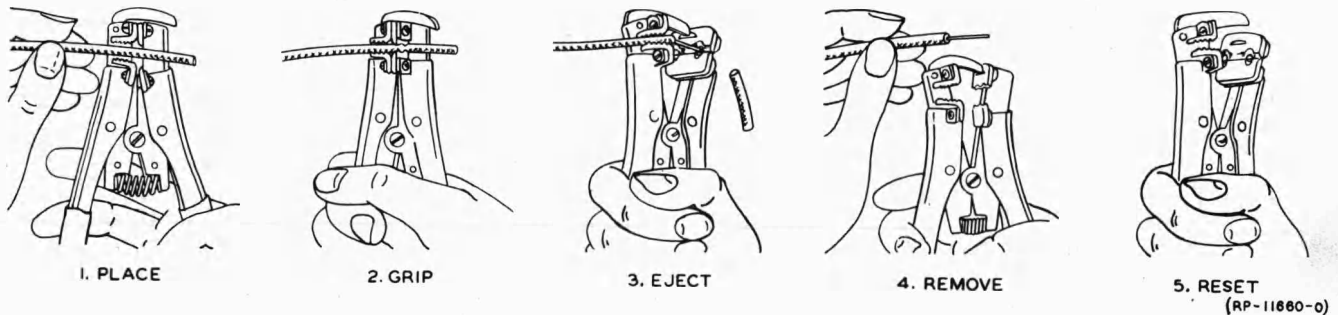

FIG. 7 OPERATION SCHEMATIC OF R-2165 POWER WIRE STRIPPER - MODEL A (PAR. 4.241, 4.242)
4.241 The R-2165 wire stripper is designed for use on No. 18 through No. 10 power wire and may be furnished per Model "A" or Model "B" as shown in Figures 7 and 8.
4.242 Hold the stripper, with the gripper jaws away from end of the wire. Insert wire in the proper size notch in the blade and so placed as to strip not more than $\frac{3}{4}$ " of insulation in one operation. Close handles to cut the insulation and strip. On Model "B" partially release handles to permit removal of wire and further release automatically resets the tool. On Model "A" release handles and remove wire. Squeeze handles and release once again to reset the tool. The sequence of operations are shown in Figures 7 and 8.